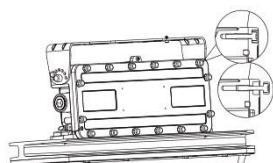

Figure 0-1
3. Loosen the screws on the driver box cover as shown in Figure 0-1. The screws are captive.